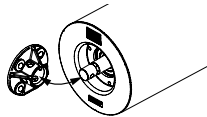

Figure 3
- ② Place motor/roller assembly in the idler end. Push spring-loaded idler into idler mount (see Fig. 3), then move motor end into motor mounting bracket.